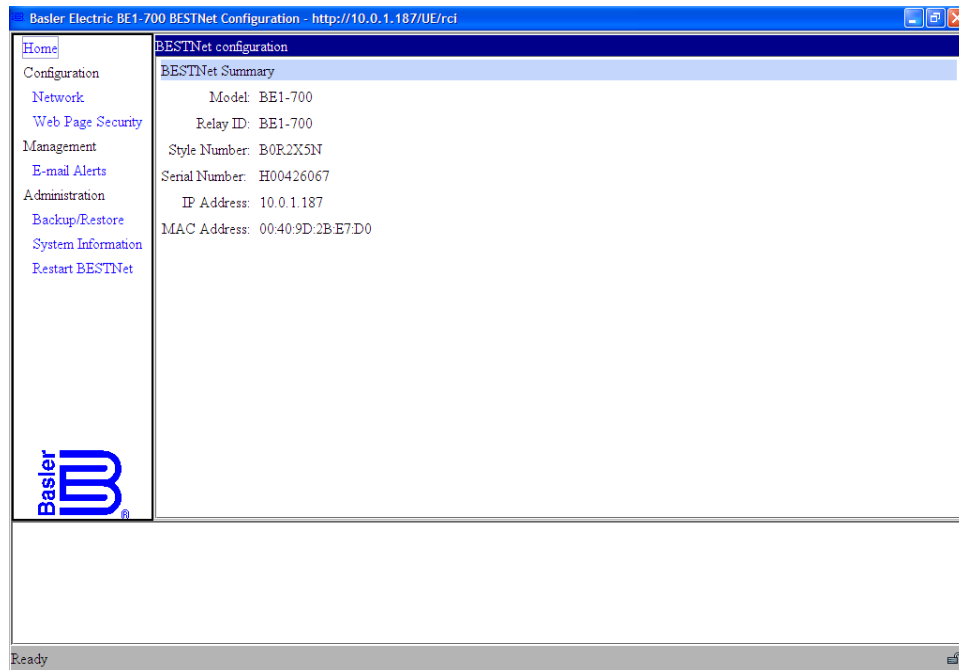

Figure 15-2. BESTnet Configuration Applet
7. Once the configuration applet is loaded, its window should appear (Figure 15-2).